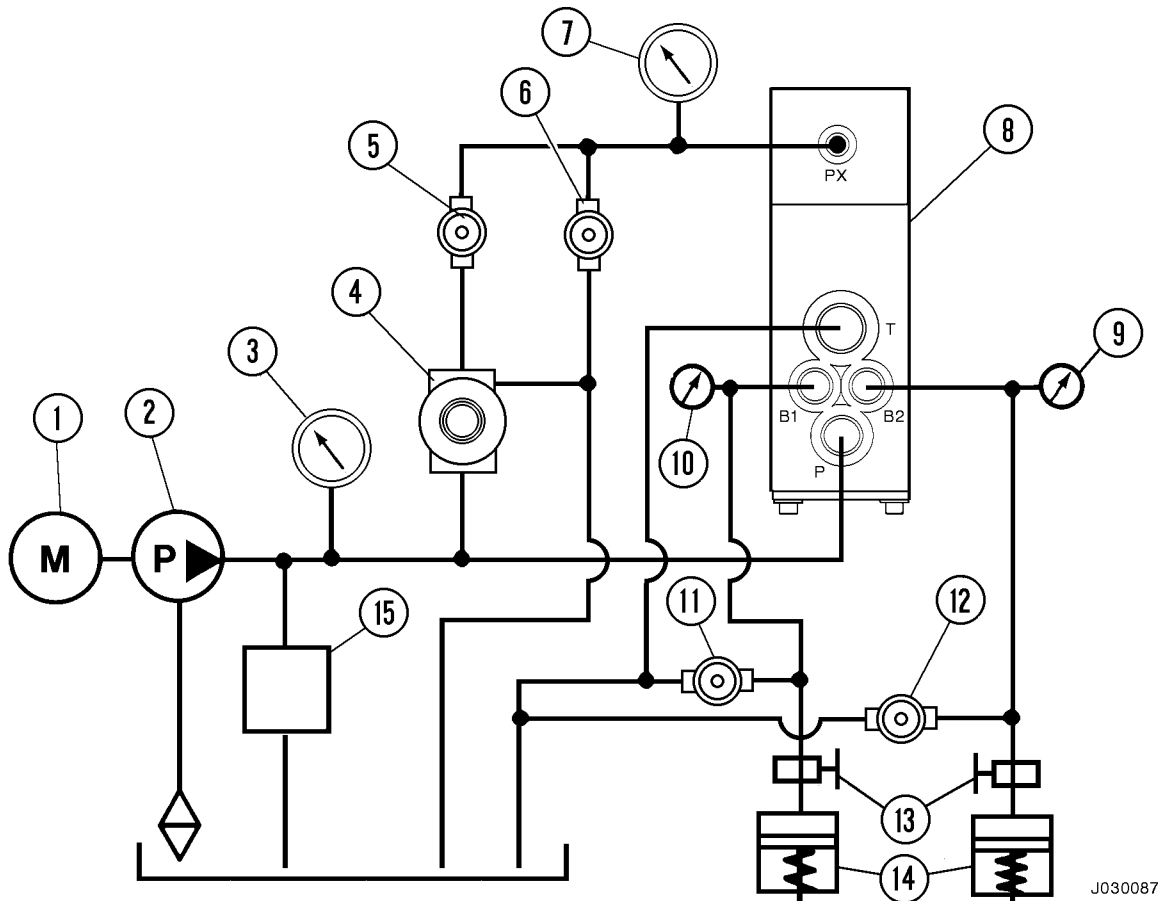

FIGURE 3-11. DUAL RELAY VALVE BENCH TEST SETUP
- Hydraulic test stand (Refer to Figure 3-11)